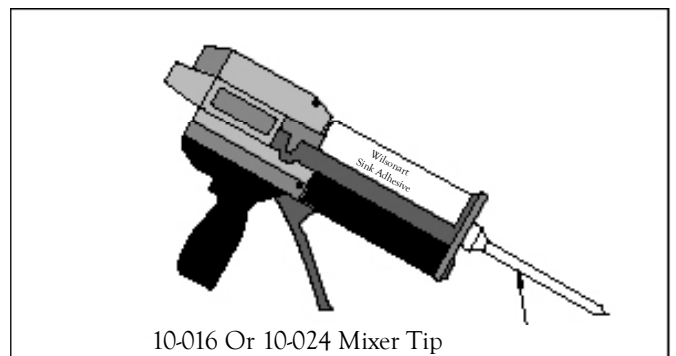

Figure 3D
- Seam Kit dispensing gun (FIG. 3D)